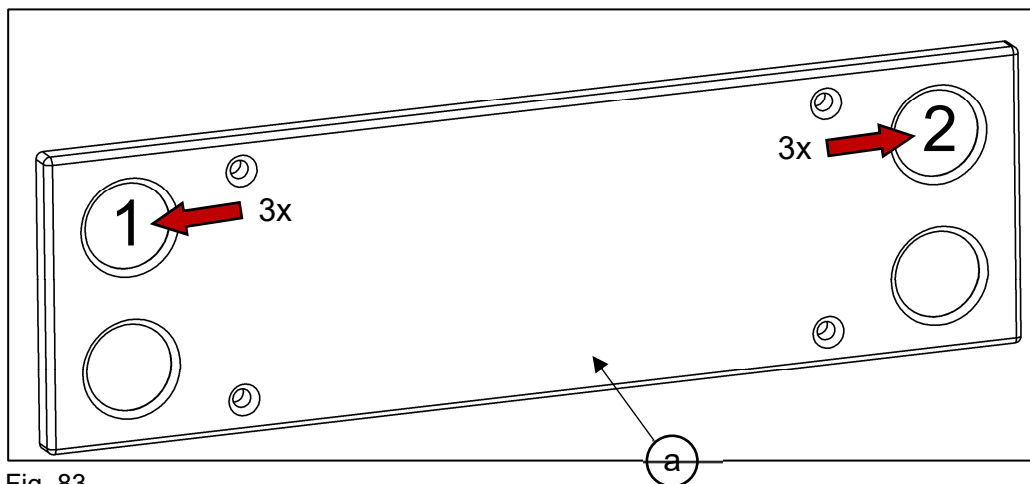

Fig. 83
- On the Control panel (a), press button 2 (top right) 3 times (see Fig. 83).